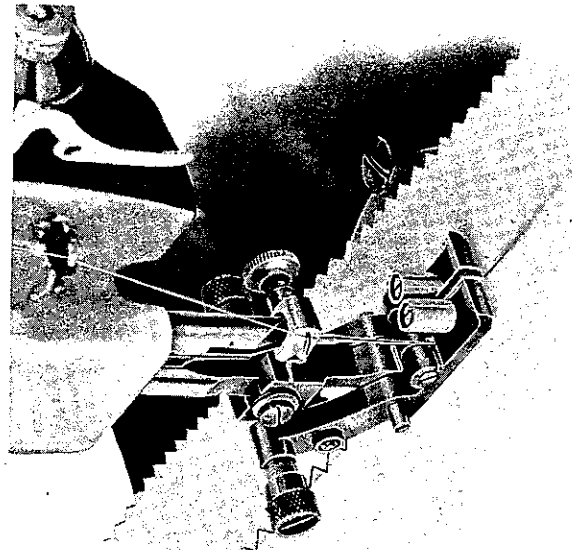

Fig. 56
9. Turn hem on hem line and baste. (See Fig. 56).